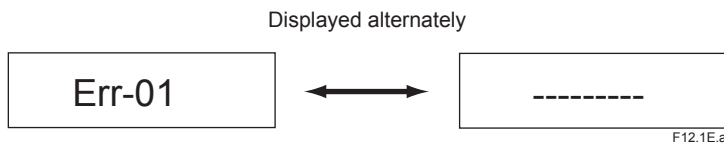
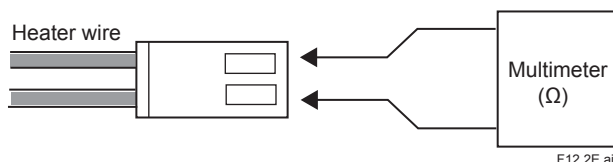

Figure 12.1
Figure 12.2
- (1) Stops the supply of power to the heater in the detector to insure system safety.
- (2) Causes an error indication in the display to start blinking to notify of an error generation (Figure 12.1).
- (3) Sends an output contact if the error is set up for “Output contact setup” for that contact (refer to Section 8.4, “Output Contact Setup”).
- (4) Changes the analog output status to the one set in “Output hold setting” (refer to Section 8.2, “Output Hold Setting”).
When the display shown in Figure 12.1 appears, pressing the error indication brings up a description of the error (Figure 12.2). The content of errors that are displayed include those shown in Table 12.1.
- 5) Remove the probe to gain access to the two connectors (four connectors for the optional automatic calibration unit), as indicated in Figure 12.2. Check these connectors are properly connected.
- (1) Turn off the power to the analyzer.
- (2) Remove the probe from the analyzer. Also remove all the connectors between the converter and probe. Measure the resistance of the heater wire (yellow wire) from the probe as indicated in Figure 12.2. The heater assembly is normal if the resistance is lower than about 90Ω. If the resistance is higher than that value, the heater assembly may be defective. In this case, replace the heater assembly (refer to Section 11.1.3, "Replacement of the Heater Assembly").